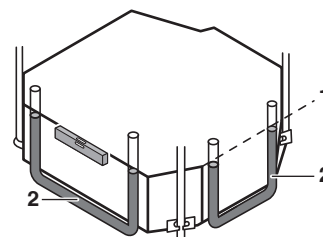

Fig. 9
- (3) Adjust the unit to the right position for installation. (See "4. PREPARATIONS BEFORE INSTALLATION" on page 8.)
- (4) Check if the unit is horizontally levelled.
- Check if the unit is levelled at all four corners with a water level or a water-filled vinyl tube as shown in Fig. 9.